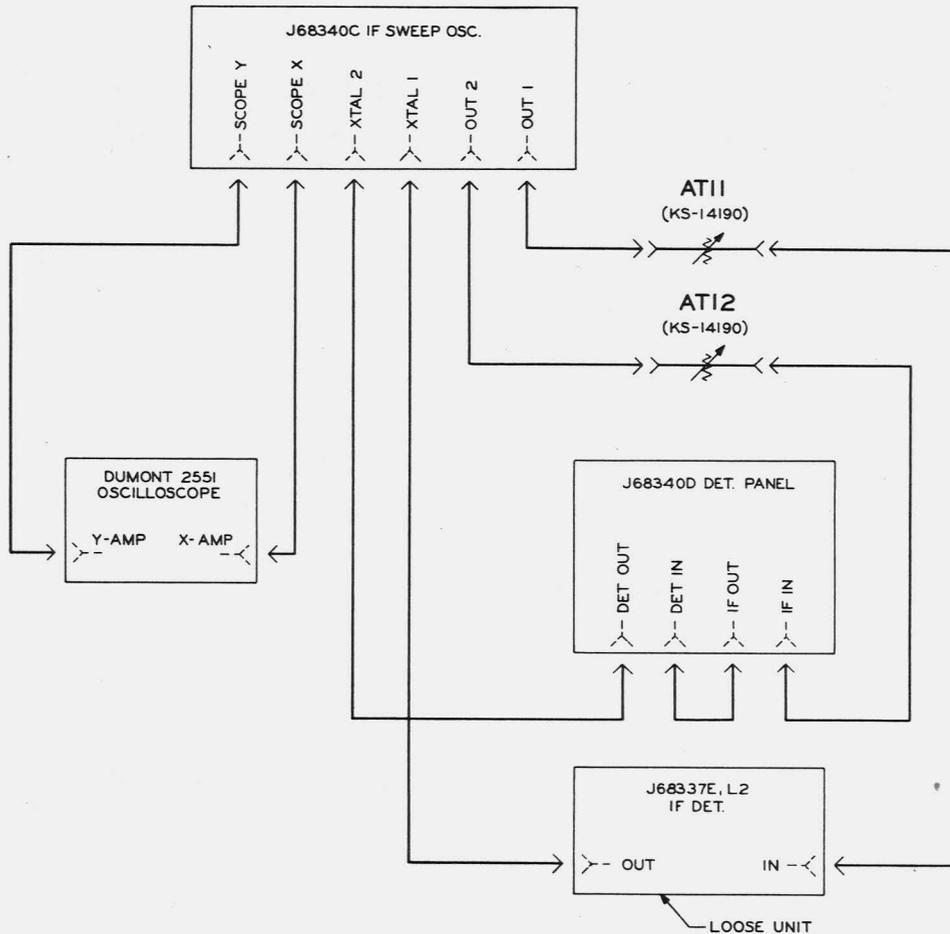

Fig. 11 - Circuit to Check IF Detector Match
- (1) Connect the test circuit in accordance with Fig. 11. Set AT11 and AT12 at 18 db. The oscillator should be sweeping. Turn the ADJ XTAL 1 control to maximum and readjust AT12 so that the traces match within ± 0.5 db.